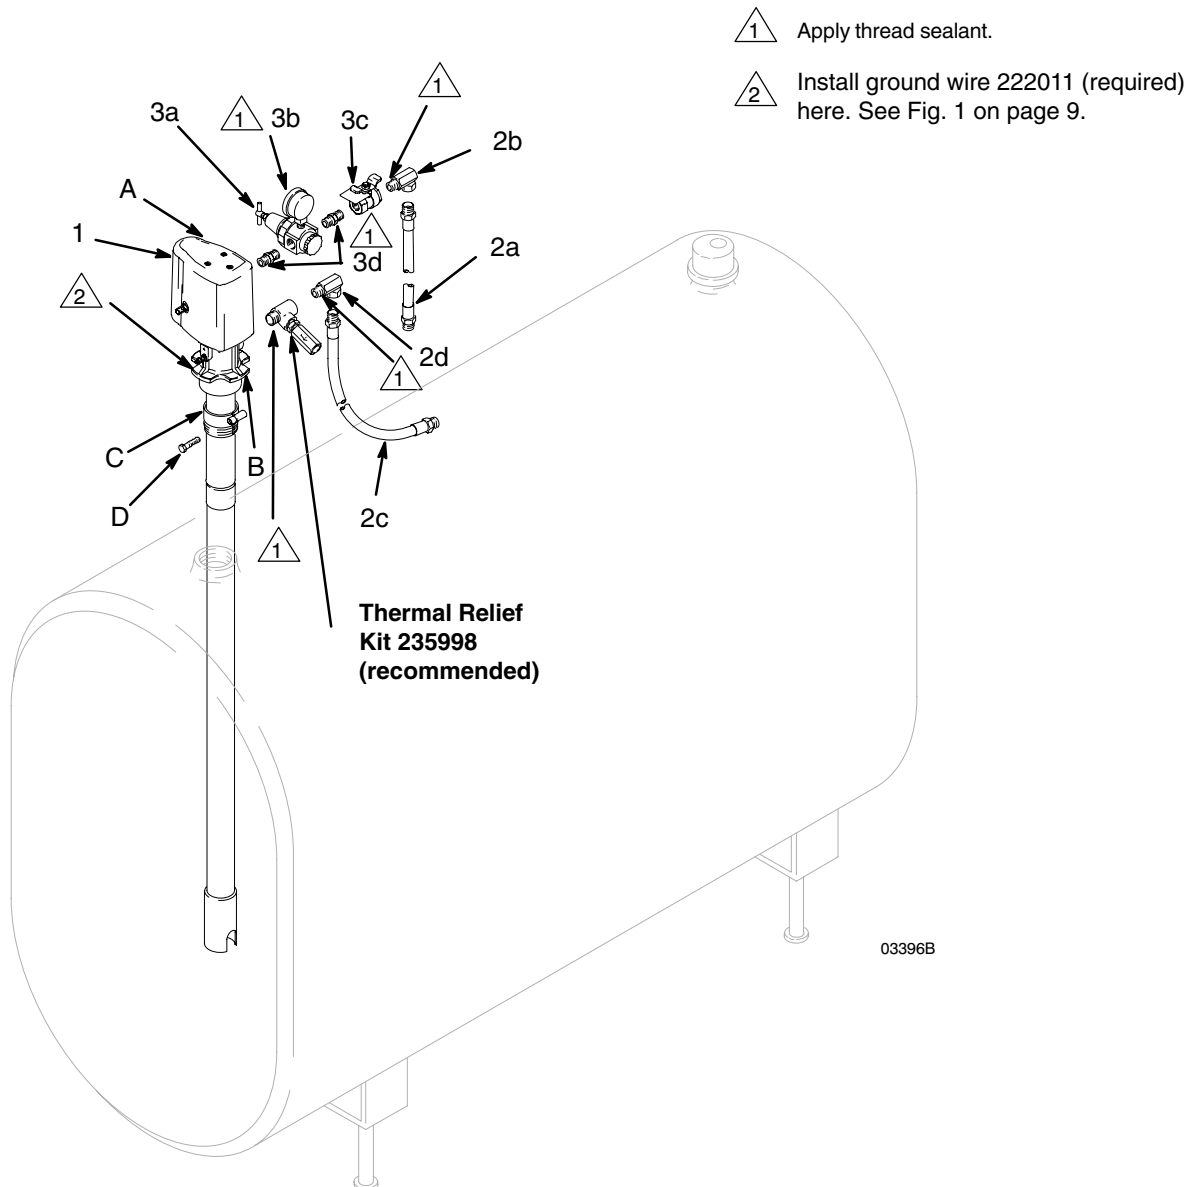

Fig. 6
1. Screw the bung adapter (C) into the bung hole of the tank. Adjust the pump so its intake is about 1 in. (25 mm) off the bottom of the tank, then tighten the bung adapter screw (D) to hold the pump in position. See Fig. 6.
2. Assemble the air regulator kit (items 3a–3d) to the pump air inlet (A), as shown. Use thread sealant and tighten all parts securely.
4. Apply thread sealant to the male threads of the 1/2 npt swivel union (2d). Screw the union into the pump fluid outlet (B).